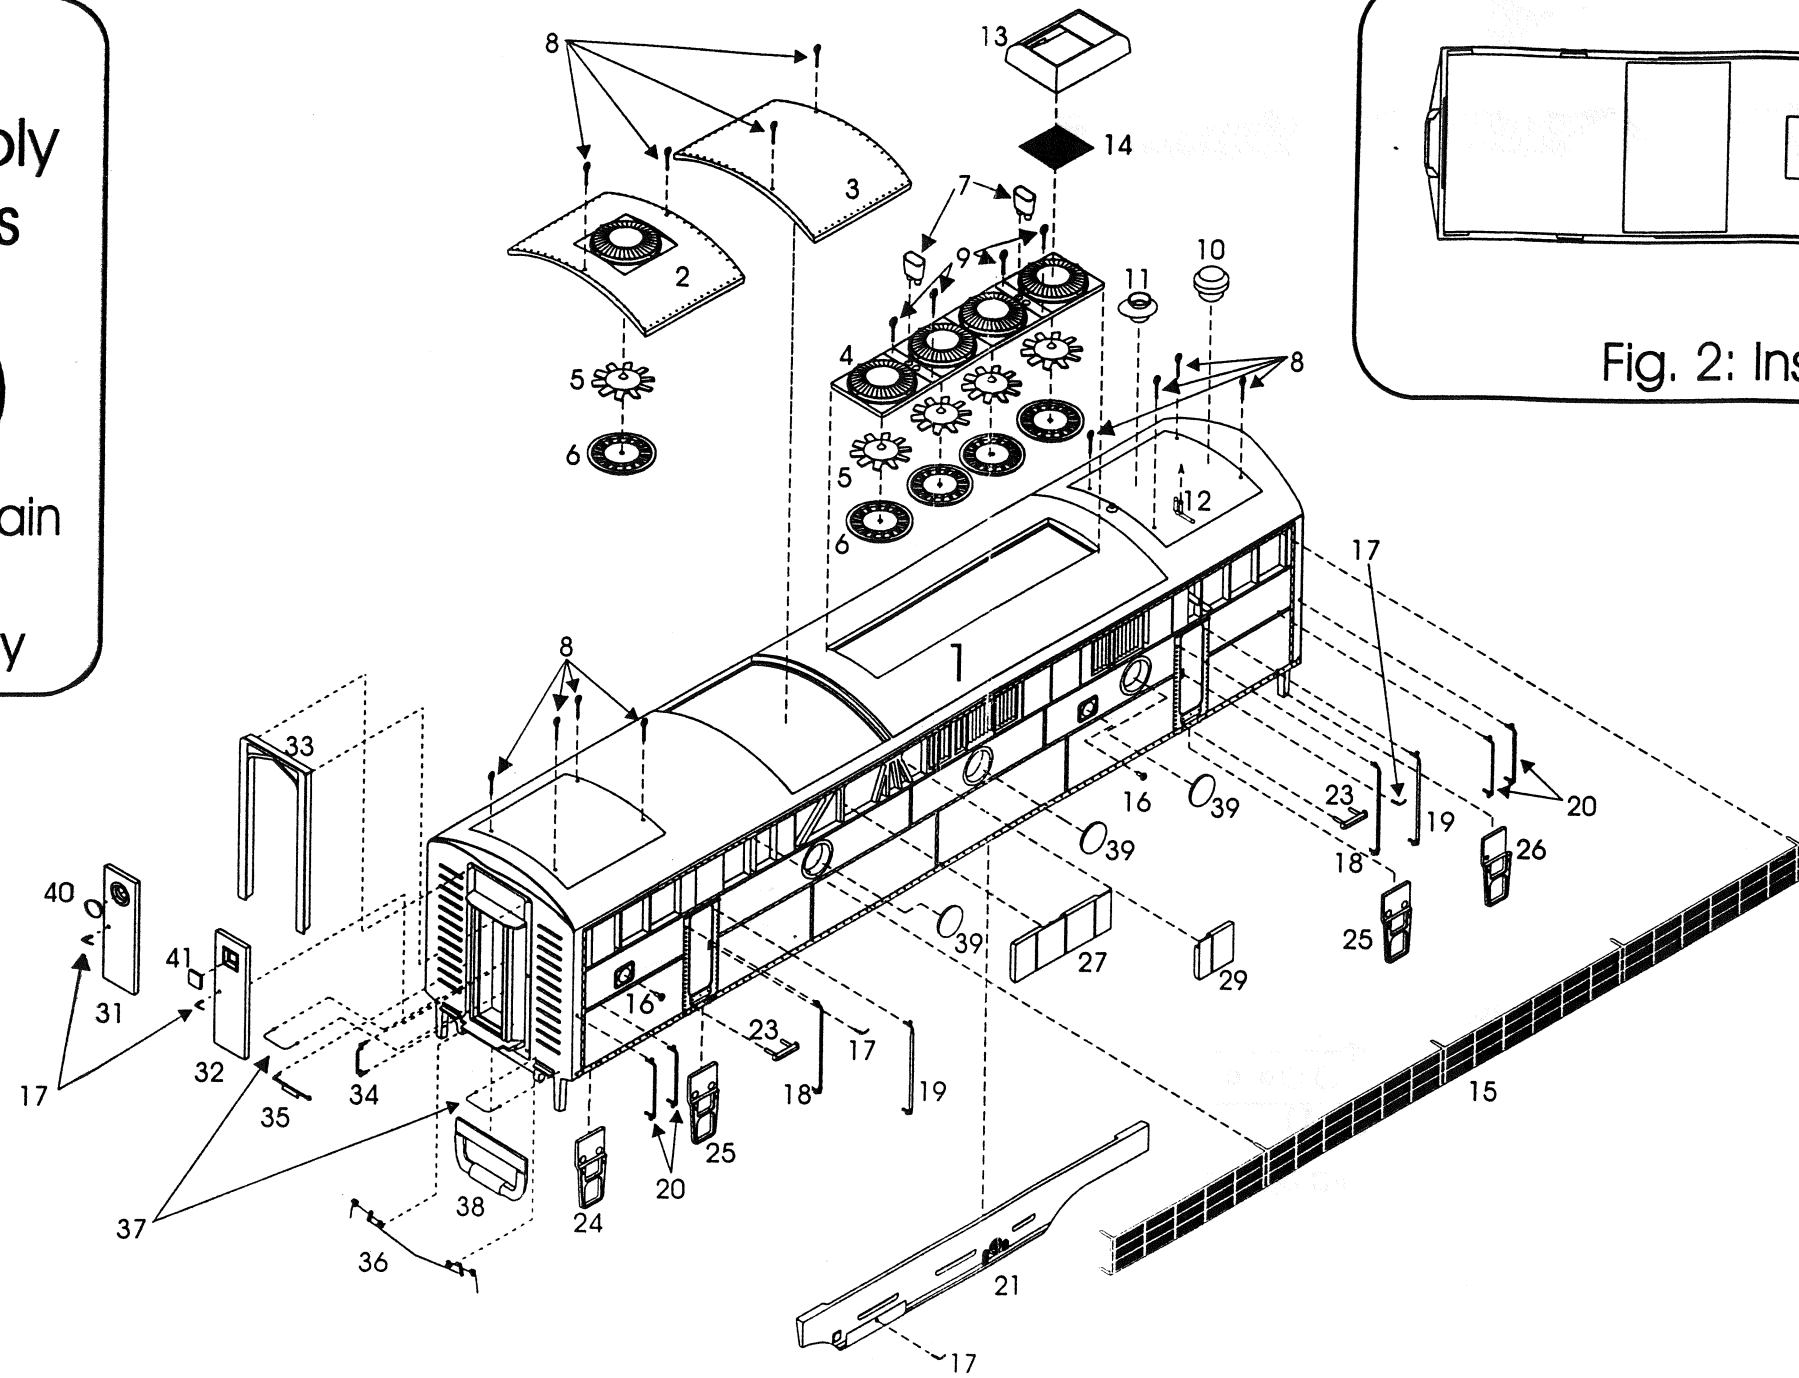

Fig. 1: Exploded View
2. Assemble the Fan Housing (4) by installing the Fan Blades (5) and Fan Blade Retainers (6) in the fan housing. One side of the fan blade hub extends out from the blades. This is the side that is inserted into the fan housing. Turn the fan housing upside down and insert the fan blades. Place the fan blade retainers over the fan blades and glue in place. Remove any existing flash from the edges of the fan housing opening on the body, test fit the fan housing assembly, and glue in place.
3. Determine whether you are going to use dynamic or non-dynamic brakes on your model. Remove the appropriate hatch (Dynamic Brake Hatch (2) or Non-dynamic Brake Hatch (3)) from the sprue. If your model has dynamic brakes, install the fan blade and fan blade retainer using the method described in step 2. Test fit the brake hatch and glue in place.
a. Non-dynamic brakes - Install the two Large Panels (27 and 28) in the center of the openings under the brake hatch (Refer to Figure 1). Align the grooves on the backs of the panels with the reinforcing ribs in the openings on the body.
5. Install Left Skirt (21) and Right Skirt (22) on the body, using the locating notches on the lower inside of the body. The short wheel cutout on each skirt is placed under the brake hatch. (The wedge shaped protrusions at the two ends of the skirts are designed to mount the locomotive on a Stewart/Kato drive. If you are going to use an Athearn drive, these wedges must be removed. The body then mounts on an Athearn drive using the center slots of the skirts. With a small modification, the Life-Like Proto 1000 drive may also be used.)
6. Determine whether the End Doors (31 or 32) on your prototype have round windows or square windows, and install the appropriate doors in the door openings in the ends of the body. Install the End Post Assemblies (33) around the end doors using the six locator holes in the ends of the body. (Typically, end doors with square windows were used until October, 1950. After this, end doors with round windows were used.)
7. Install two Exhaust Stacks (7) in the locator holes in the fan housing, one between
16. Remove the End Uncoupling Rods (36) from the parts sprues and install them using the locator holes provided on the ends of the body.
17. After carefully removing the clear plastic parts (Parts 39 through 41) from their parts sprue as described above, install them in their appropriate locations as shown in Figure 1.
18. Carefully remove the excess metal from the Etched Metal Grilles (15), being sure to leave the ten "tabs" in place. These tabs are used to mount the grilles to the locomotive body. Inspect the grilles to determine which side has "shiny" vertical supports. This side faces inward when installed. The outside vertical supports have been etched to produce a more realistic look. Bend the eight "tabs" to ninety degrees, and place them in the locator holes. The grilles are not symmetrical, therefore can only be installed on one side of the locomotive. Bend the tabs down from the inside of the body to hold the grilles in place. The grilles were not painted on the prototype locomotives, therefore should be left in their natural state. (We have included horizontal grilles in this kit. Farr vertical grilles were used on some F-7B units after March, 1951. Beginning October, 1951, the Farr grilles became standard.)
19. The use of the Coupler Centering Devices (38) depends on the drive unit you use with your locomotive. They may have to be modified with some drive units, or, if used, may require that the couplers be installed after the locomotive body is placed on the drive unit.